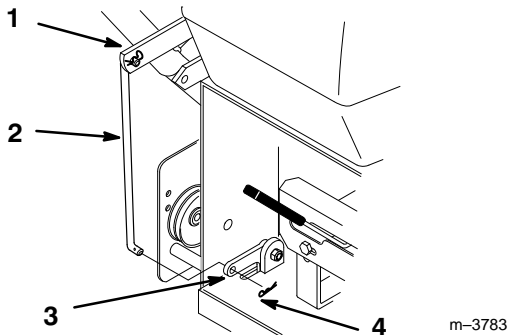

Figure 8
2. Remove hairpin cotters from bottom end of blade control rod (PTO) (Fig. 8).
3. Secure blade control (PTO) rod through hole in bellcrank with hairpin cotters (Fig. 8).
3. Replace the spring washer, dish down, and locknut (Fig. 8).